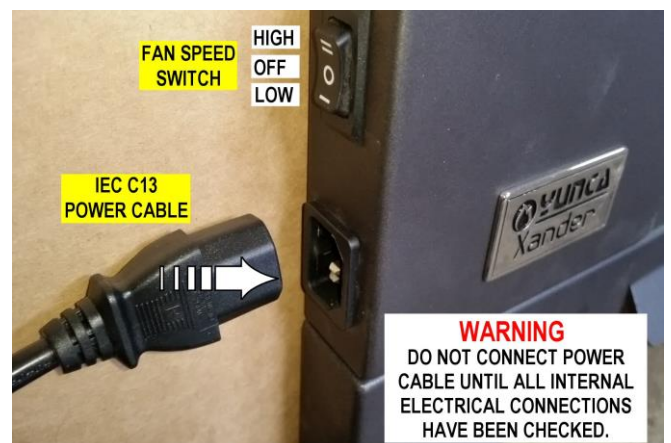

Fig. 15
- R6.** Connect the IEC C13 power plug to the IEC C14 socket (Fig. 15) in the side of the fascia.